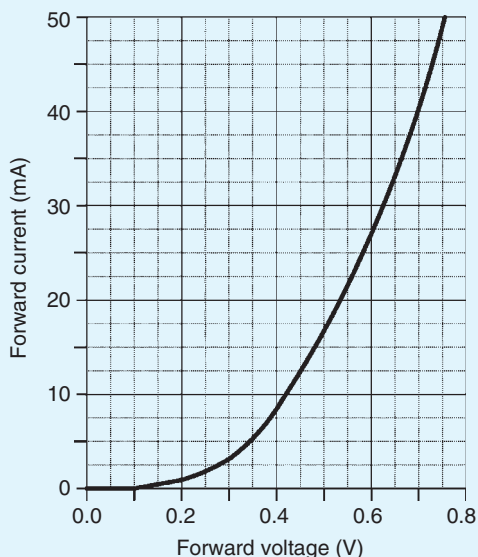

Figure 11.13
11. The graph shown in Fig. 11.13 was obtained during an experiment on a diode. (a) What type of diode is this? Give reasons. (b) Determine the forward current for a forward voltage of 0.5 V. (c) Determine the forward voltage for a forward current of 30 mA. (d) Determine the resistance of the diode when the forward voltage is 0.4 V. [(a) Ge (b) 17 mA (c) 0.625 V (d) 50 Ω]